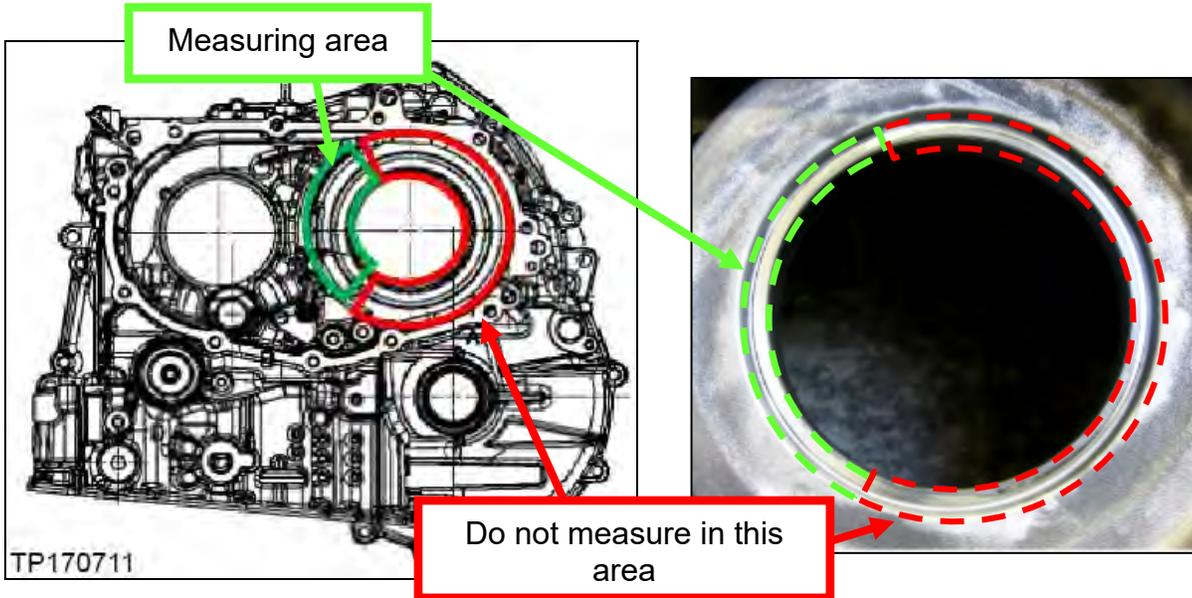

Figure 4M
- Refer to the Figures 4M and 5M and then proceed to page 57.
**IMPORTANT:** Please refer to Figure 4M for acceptable areas (highlighted in green) to measure “Y”.